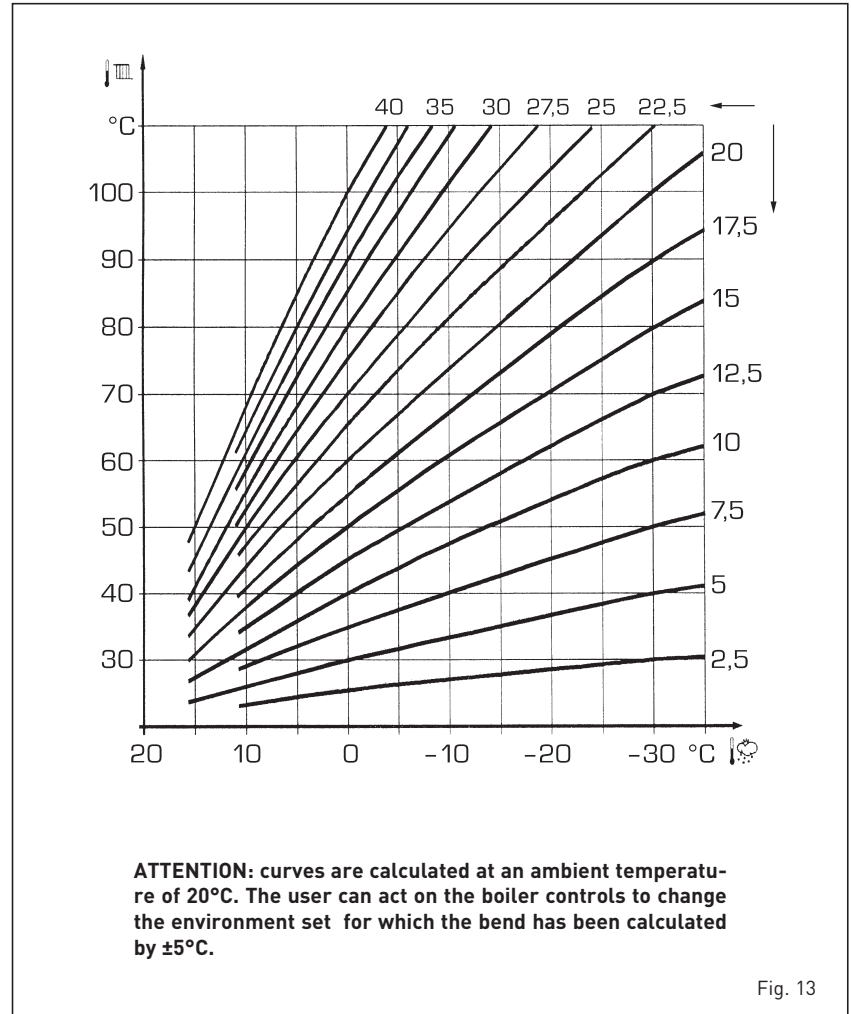

Fig. 13
3.4 EXTERNAL SENSOR (fig. 13)
Increasing the steepness of the curves of fig. 13 will increase the output temperature as the external temperature decreases.